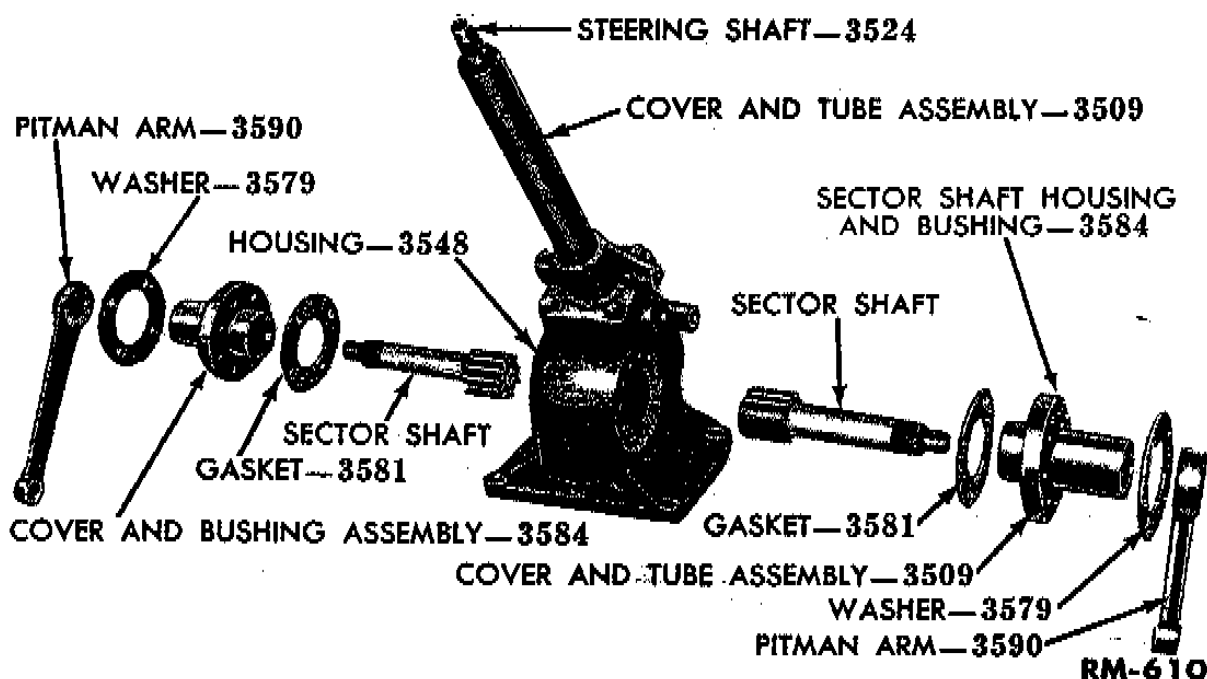

Fig. 3—Sector Shafts, Disassembled
(4) **STEERING GEAR HOUSING.** Replace the steering gear housing (fig. 3) if it is cracked or otherwise damaged. Replace the lower steering shaft bearing race if it is scored or pitted.
(5) **PITMAN ARM.** Replace a pitman arm (fig. 3) that has been damaged in any way.
(7) **SECTOR SHAFT.** Replace a sector shaft (fig. 3) if the teeth or bearing surface are excessively worn.